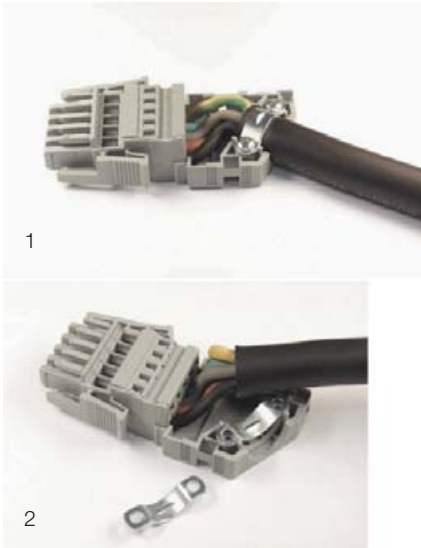

Fig. 42: Connector with strain relief housing
- Guide the conductors in the strain relief housing, as shown in fig. 42, and secure the sheathed flexible cable to the strain relief housing with a cable clamp.
To ensure adequate strain relief even with cables with a diameter of < 12 mm, it is necessary to install a second cable clamp underneath the cable (fig. 42, item 2).